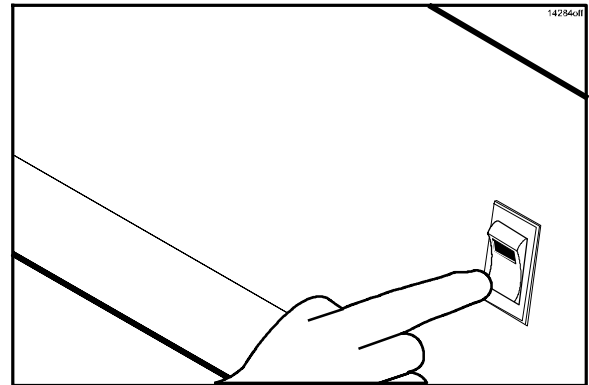

Figure 113
51. Place the fan interlock switch in the OFF position. (See Figure 113.)